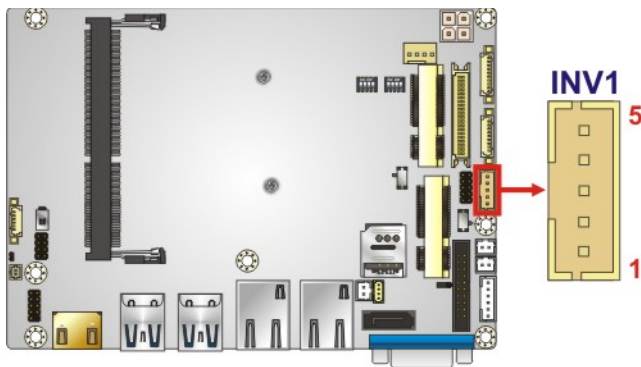

Figure 3-9: LVDS Backlight Control Connector Location
- CN Location:** See Figure 3-9